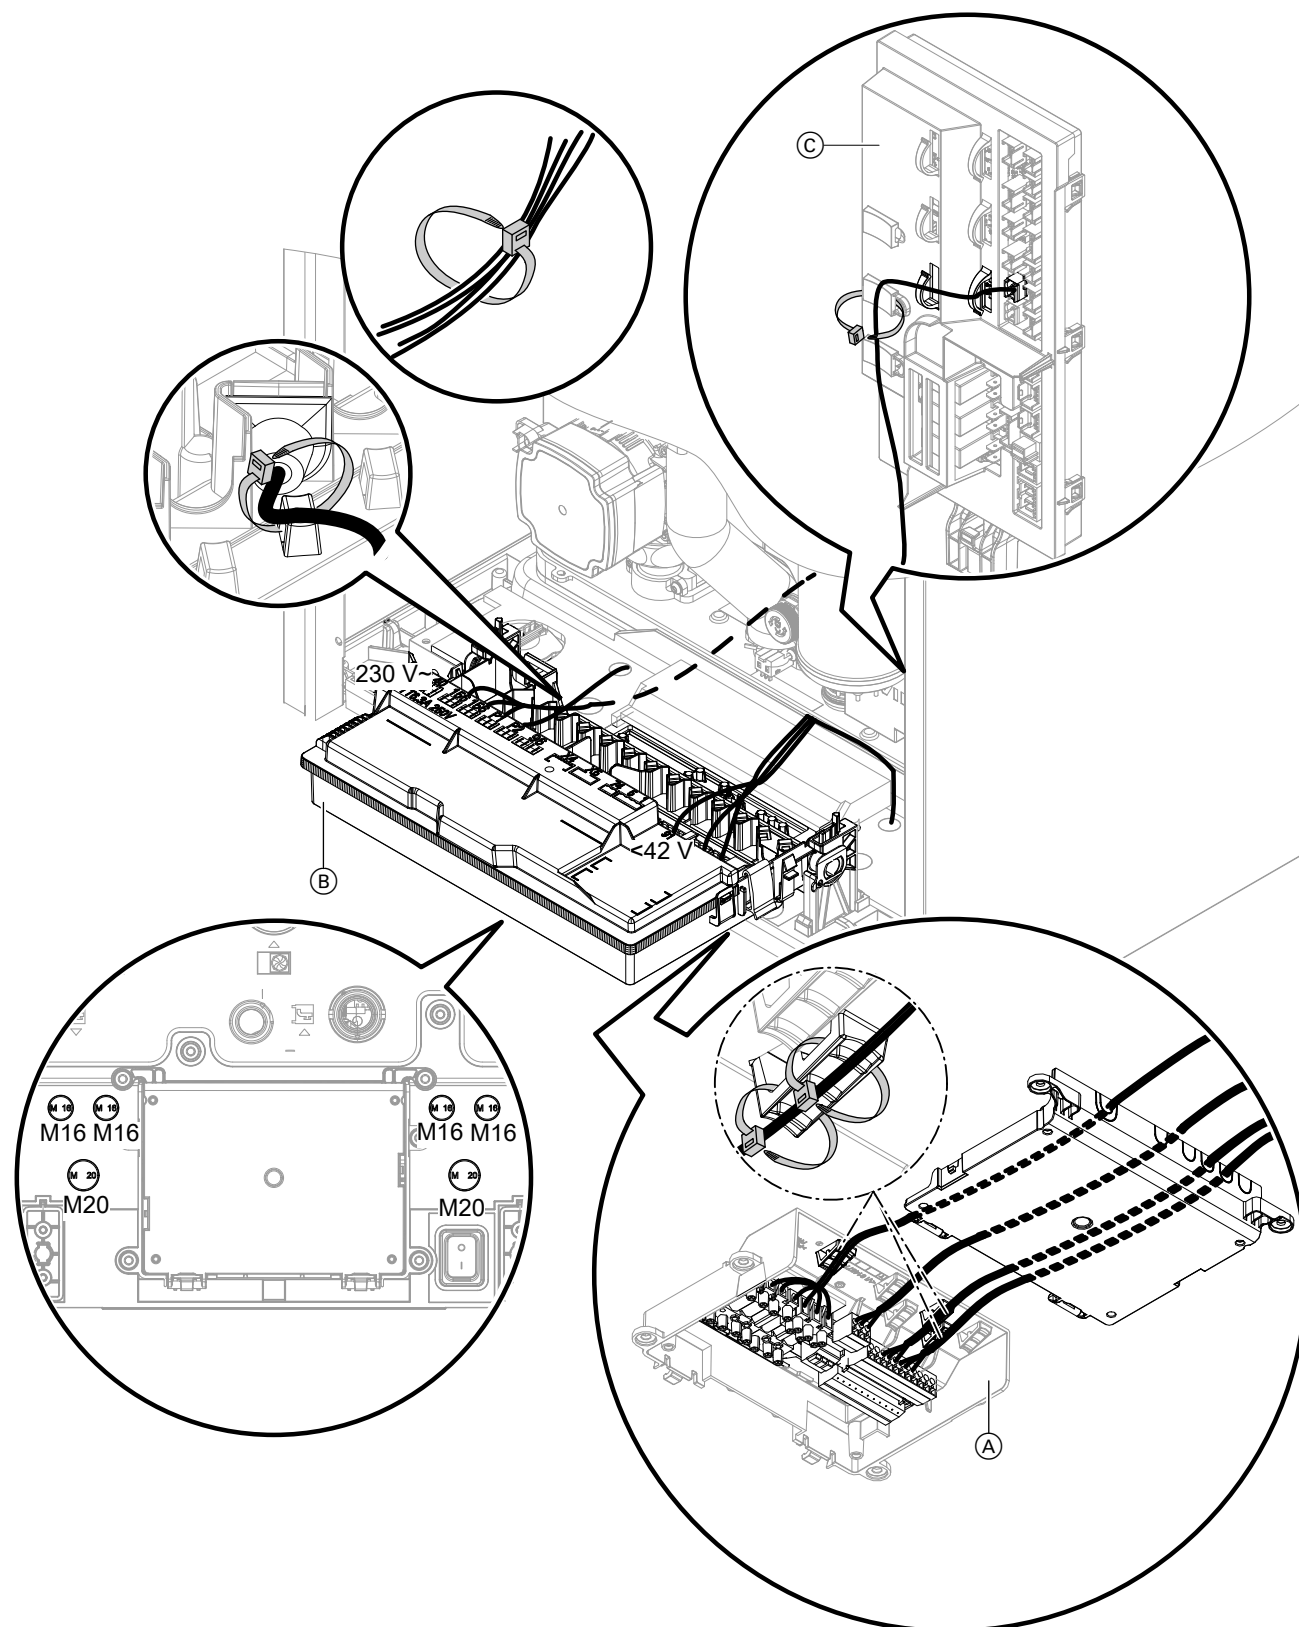

Fig. 42
- Provide strain relief on all cables/leads in the 230 V~ junction box with 2 cable ties: See Fig. 42.